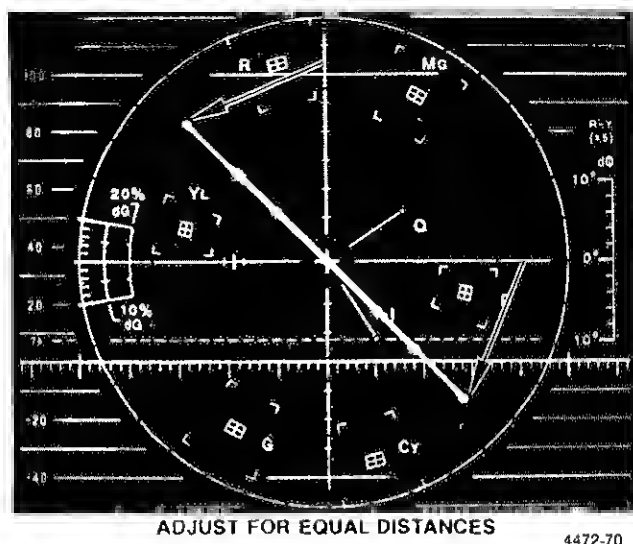

Fig. 5-7. Adjusting B-Y (U) gain.
b. ADJUST—B-Y Gain (R845) on Assembly A4 so that the vector lies along a line parallel to the line from 135° to 315°. The Variable GAIN control may be used to move the outer dots to the outer circle of the graticule. The line will cross the vector circle at equal increments away from the 90° and 0° positions of the circle. See Fig. 5-7.